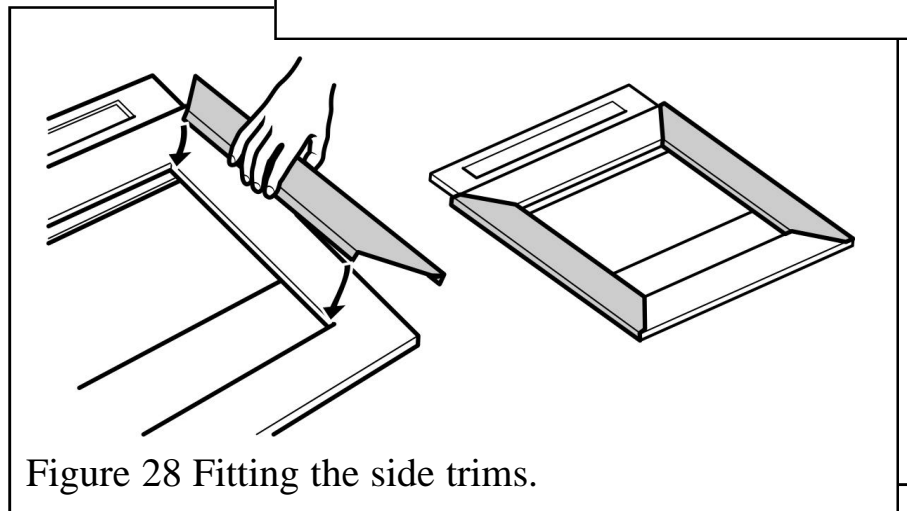

Figure 28 Fitting the side trims.
5. Locate the side trims as in figure 28.